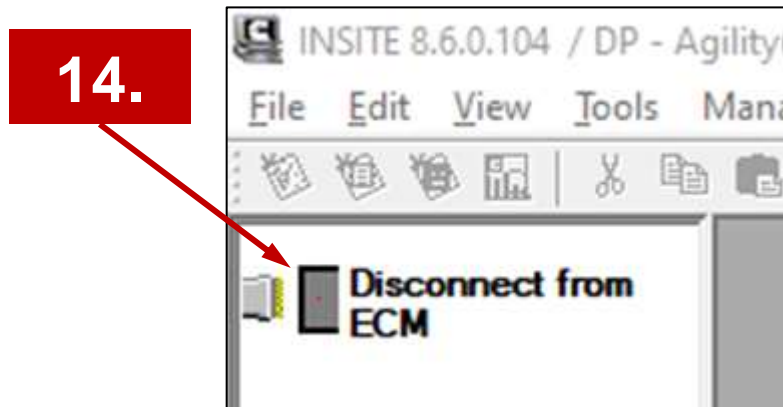

Figure 17. Step 14 Disconnect from ECM tab.
Step 12. Select desired Cal ID # from the list, then click “Transfer to ECM” (12).
Step 14: When complete, click “Disconnect from ECM” tab at upper left menu and close out INSITE. *Figure 17*